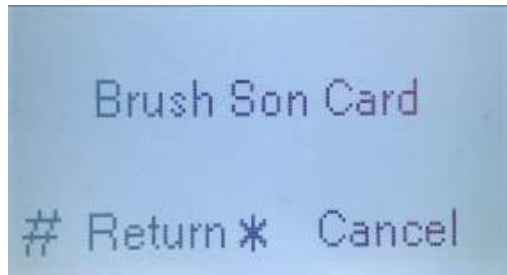

Figure 4-6
- f) Put the card to the swipe card zone. See Figure 4-6.